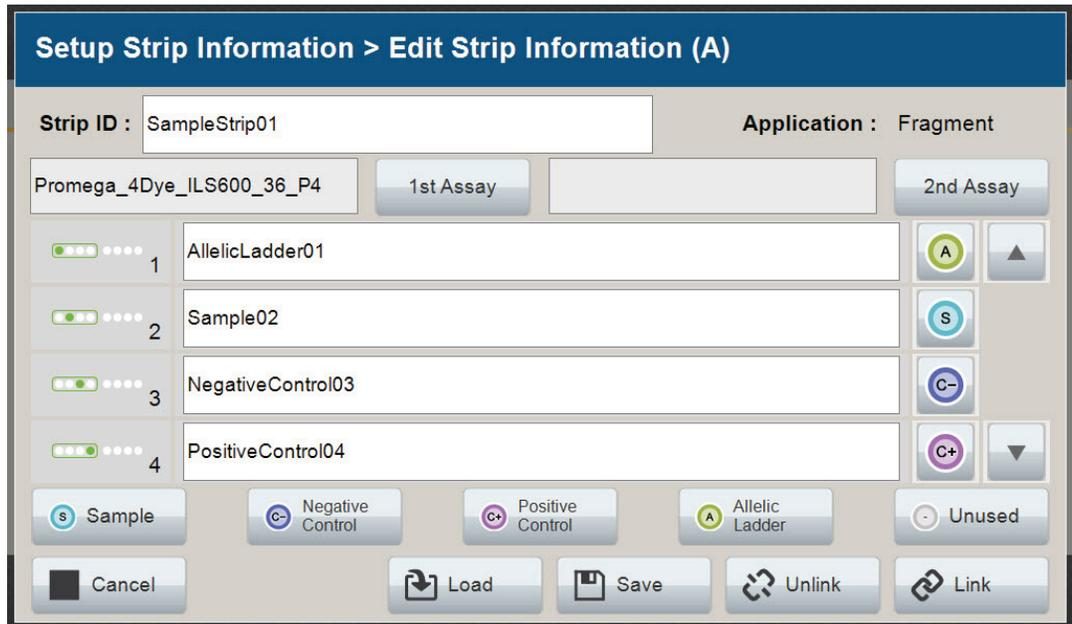

Figure 18. Completed 'Edit Strip Information' screen.
11. When all information is entered and verified for the strip, select **Link** on the lower right corner of the 'Edit Strip Information' screen (Figure 18). This will link the strip to the run. If you want to save the strip information to use in future runs, save the information by selecting **Save** at the bottom of the 'Edit Strip Information' screen (Figure 18). This will save the strip information so that it can be loaded later into another run as well as link the strip to the run. Refer to the *Spectrum Compact CE System Operating Manual #TMD058* for use of saved strip information.